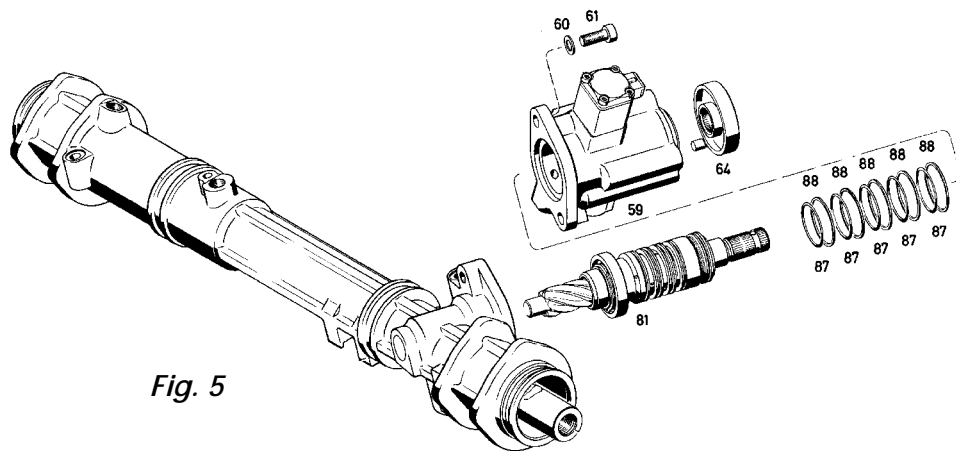

Fig. 5
4.1 Additionally, for versions with protecting cap (64):
Remove the protecting cap (64) (*see Fig. 5*).
4.2 Rotate the rack (3) to the straight ahead position, in other words, relative to the steering lockstop the length of projection of the rack ends must be equal to either side.
Screw out the cap screws (61) with washers (60) (*Fig. 5*).